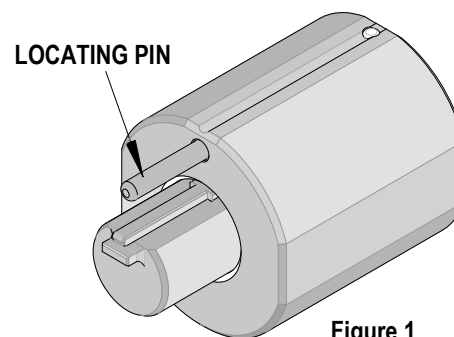

Figure 1
► For the 53 Way connector, the locating pin will need to be removed from the 63824-5400 Extractor Tool. See Figure 1.